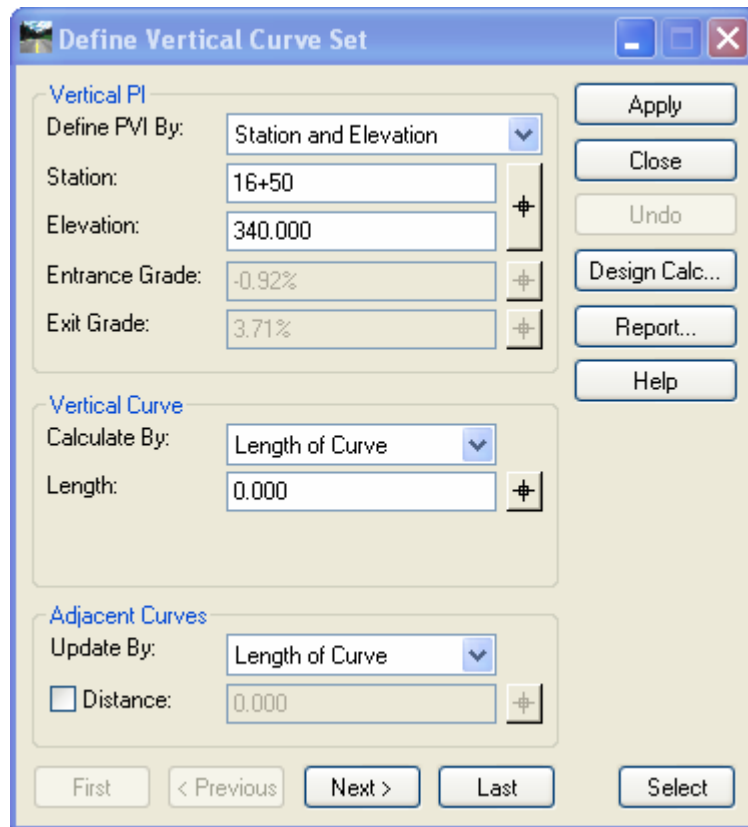

Figure 5-4 InRoads Define Vertical Curve Set Dialog Box
- B. In the **Vertical Curve** (see Figure 5-4) section of the **Define Vertical Curve** dialog box, set **Calculate By** to **Length of Curve** and for **Length**, enter **300**. Click **Apply**. The vertical alignment display is updated with the vertical curve definition.